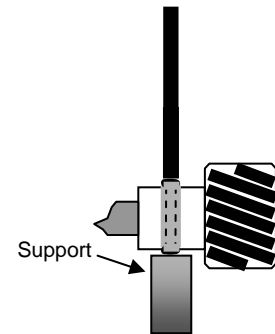

Fig. 16D
F. Using a solid surface as a support, (**Fig. 16D**) the gear was turned one-half turn and the hammer and pin punch were used to peen the opposite end of the pin, making it larger in diameter and tight in the hole.